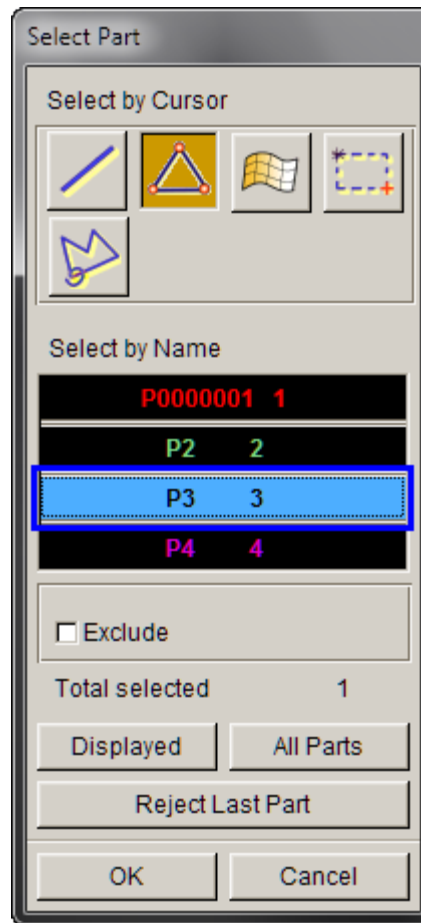

Figure 33
5. Select part **p3** and click **OK**. (Figure 33).